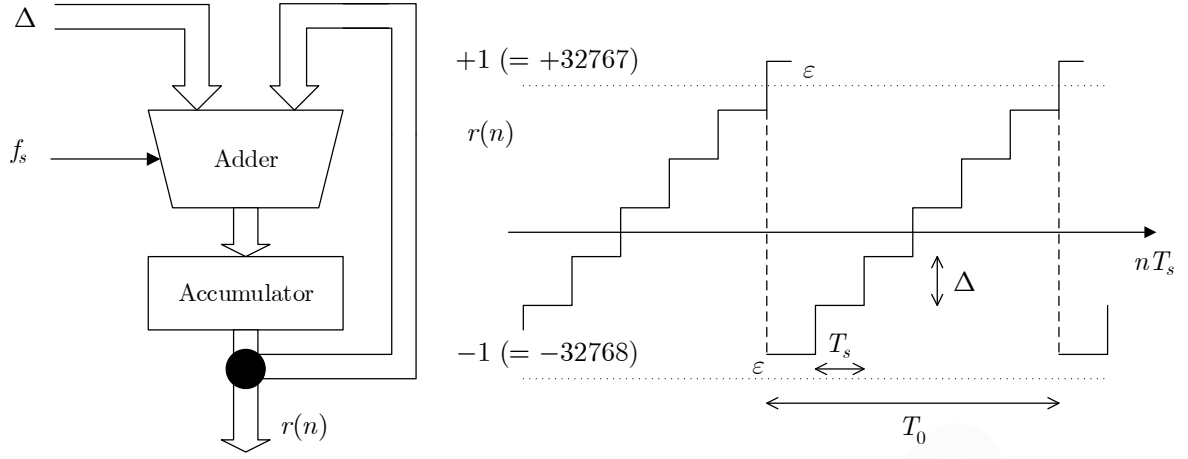

Figure 3: Relaxation oscillator principle and waveform.
1. **(L)** Develop a relaxation oscillator (ramp integrator) using a 16-bit signed integer variable (short type). This state variable, $r(n)$, should be incremented by a value Δ (another short variable) every sampling interval. Due to the circularity of the two's complement representation, the state variable will eventually overflow and take a value equal or close (and above) to the minimum possible, see Figure 3.
3. **(L)** Send $r(n)$ to the right output channel and observe it. Explain the differences between what is observed and the waveform in Figure 3. Change Δ to the other two values and measure the output frequency.